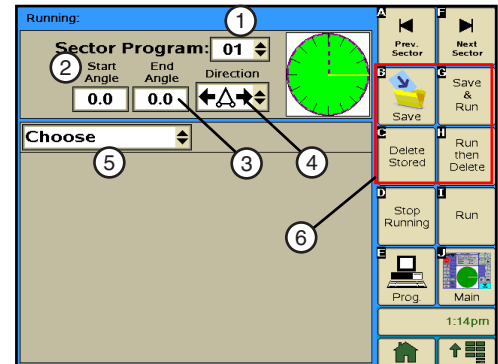

Figure 97-1 1. Sector Program Field
1. Push **Prog, Sector Prog.** to view the Sector Program screen. Refer to Figure 97-1.